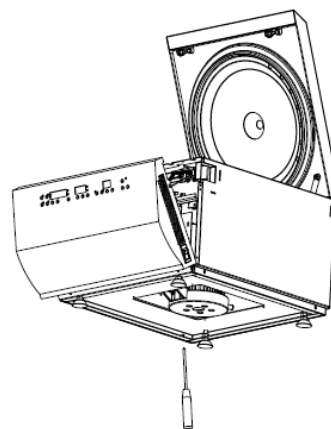

Fig. 2
- Remove the front panel (1) by unscrewing the screws and disconnect the power switch, the flat cable, the display supply and the front panel ground cable. Lift the bowl seal and unscrew the three press screws of the chamber.
- Remove the bowl seal (2).
- Unscrew the 3 screws, then turn the motor body (Fig 2).